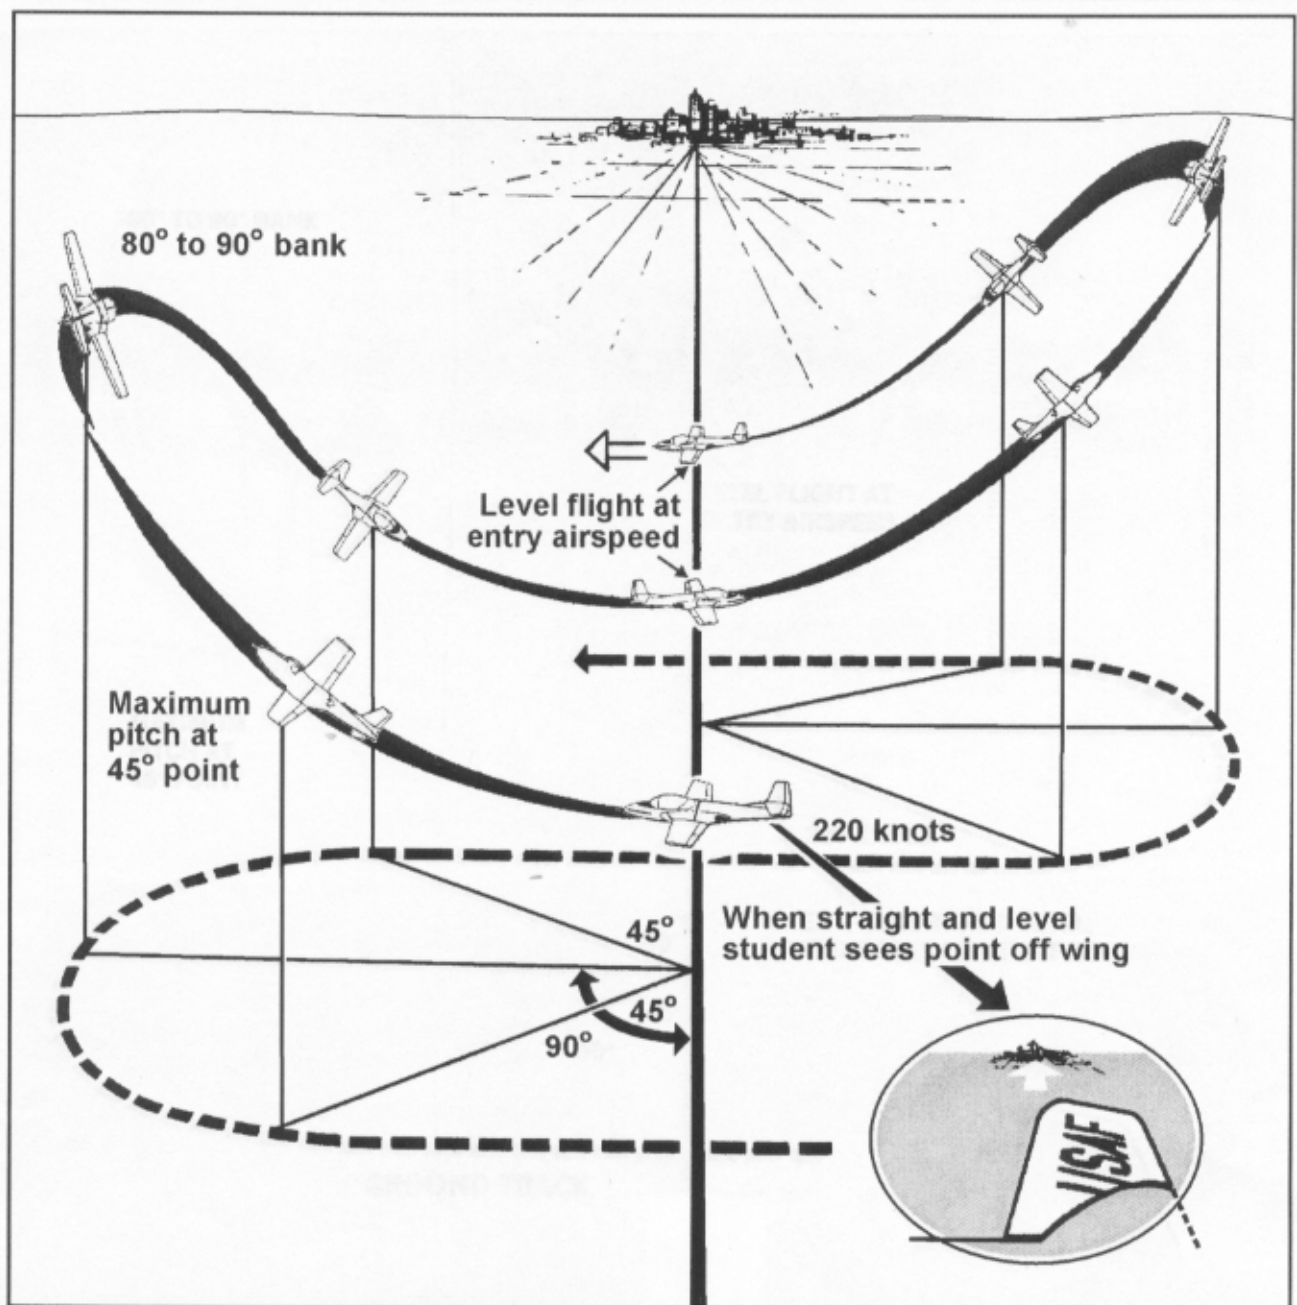

Figure 5.9. Lazy Eight.
5.22. Lazy Eight. A lazy eight is basically a coordination exercise. It is a slow, lazy maneuver where the nose track of the aircraft describes a figure eight lying on its side at the horizon. The horizon line bisects this figure eight lengthwise. The maneuver includes a 180° change of direction and reversal, and it requires a continuous change of pitch and bank (figure 5.9).